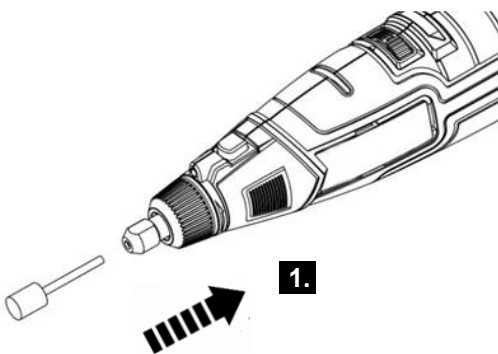

Fig. 5
> Insert the accessory into the collet (9) to your desired position . Press the shaft lock button (7) down and ensure shaft do not wobble, use the spanner (13) to tighten the tensioning nut (5) by turning it clockwise (Fig.5&6) .